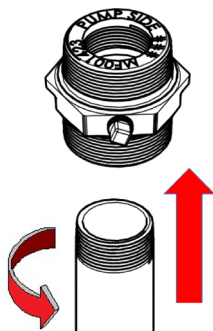

Figure 3A
3. Wrap the threads of the suction pipe with the appropriate sealant for the fluid being pumped. Insert the suction pipe (with the threaded side up) into the bottom of the bung adapter until the threads engage (Figure 3A, 3B, and 3C). Tighten to create an air / fluid tight seal.